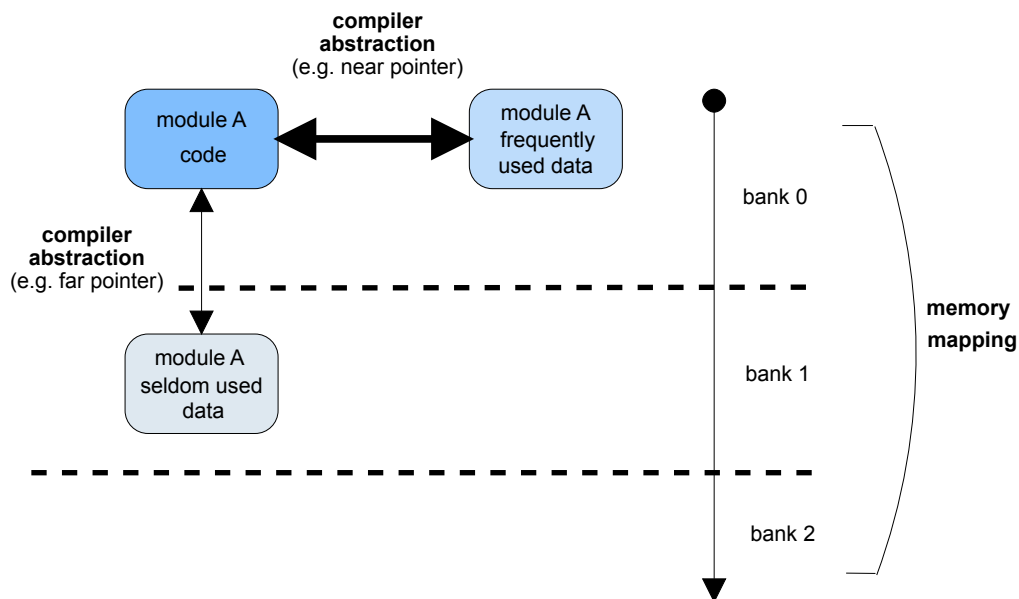

Figure 7.2. Optimized memory usage with fast data access
- ▶ the data are mapped to the same bank as the code accessing the data (for 16-bit processors). This scenario is shown in figure Figure 7.2, “Optimized memory usage with fast data access”